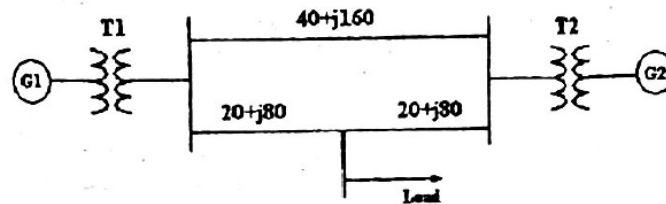

Fig. 11(a)
11. (a) Prepare a per phase schematic of the system shown in Fig. 11(a) and show all the impedance in per unit on a 100 MVA, 132 kV base in the transmission line circuit. The necessary data are given as follows: (16)